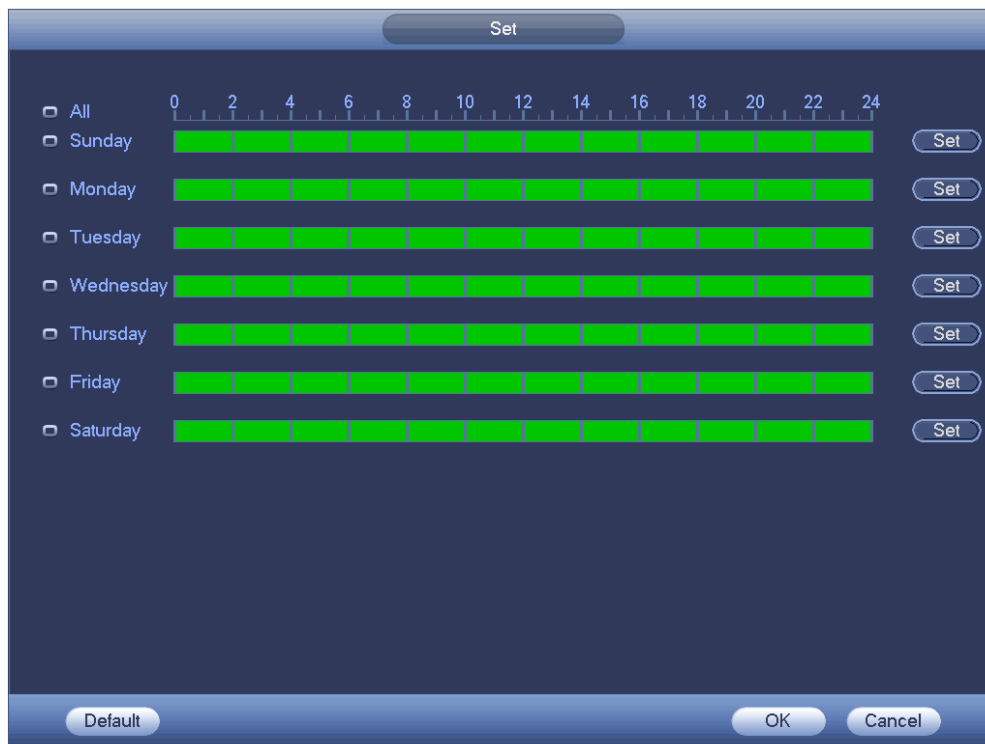

Figure 4-198
Step 4 Click the Set button after the period, you can set valid period to use current account. See Figure 4-198.